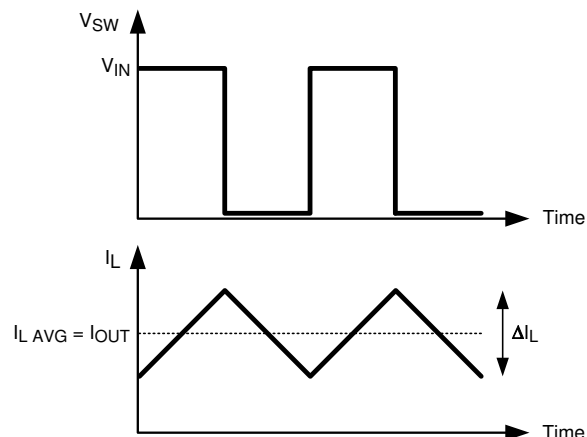

图 8-5. Switch And Inductor Current Waveforms
The inductor (L) used in the application influences the ripple current and the efficiency of the system. The first selection criteria is to define a ripple current, ΔI_L . In a buck converter, it is typically selected to run between 20% to 30% of the maximum output current. 图 8-5 shows the ripple current in a standard buck converter operating in continuous conduction mode. Larger ripple current results in a smaller inductance value, which will lead to a lower series resistance in the inductor and improved efficiency. However, larger ripple current will also cause the device to operate in discontinuous conduction mode at a higher average output current.